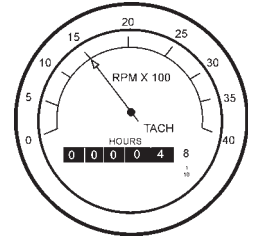

Figure 25. Engine Tachometer
- While monitoring the tachometer, (Figure 25) use the Engine Throttle Control to set the engine speed to 1500 RPM by following steps 8A-8C.
11. While monitoring the tachometer (Figure 25), use the **Engine Throttle Control** to set the engine speed to 2550 RPM (maximum speed) using steps 8A-8C